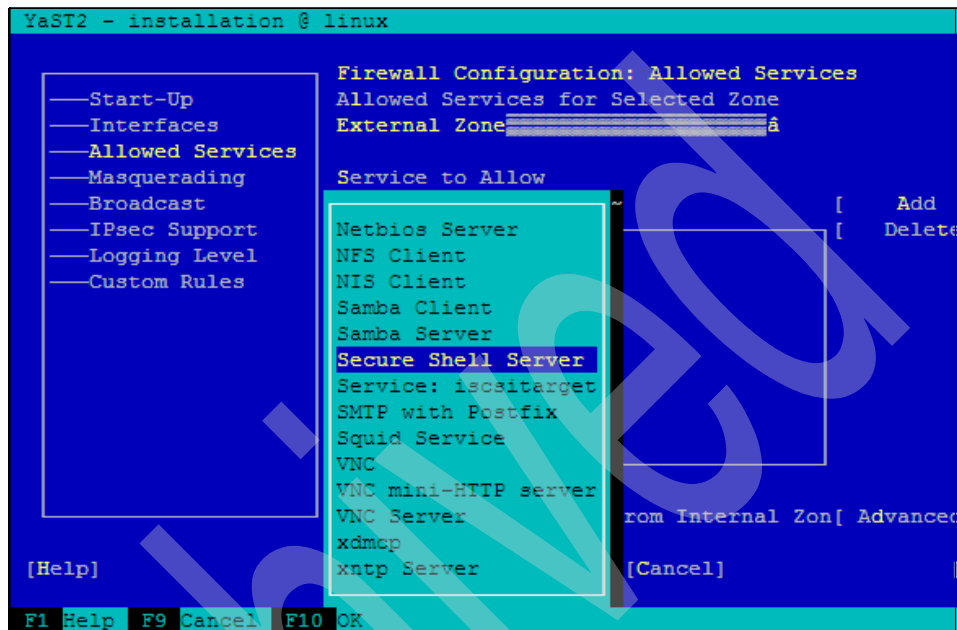

Figure 9-30 Services to allow list and selecting SSH service
- c. Find and highlight **SSH** in the new window, as shown in Figure 9-30. Finally, press Enter to confirm.